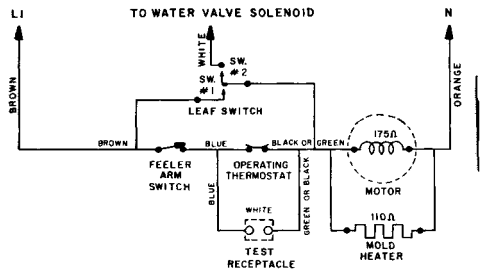

Figure 29 - Icemaker Wiring Schematic
2. To check the OPERATING THERMOSTAT, the mold temperature must be below 16°F., and the on-off lever in the off position. See figure 29.